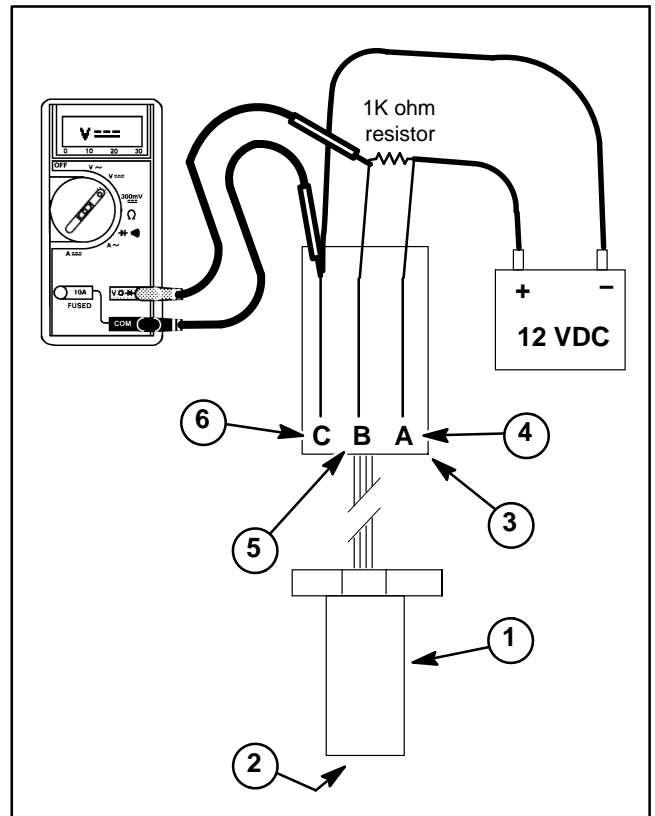

Figure 40
4. Connect positive multimeter test lead to the sensor connector gray striped wire terminal and the negative multimeter lead to the connector black wire terminal (Fig. 40). Set multimeter to ohms setting.
5. Using a +12 VDC battery, a multimeter, a 1K ohm resistor and appropriate jumper wires, connect the battery and multimeter to the speed sensor (Fig. 40).